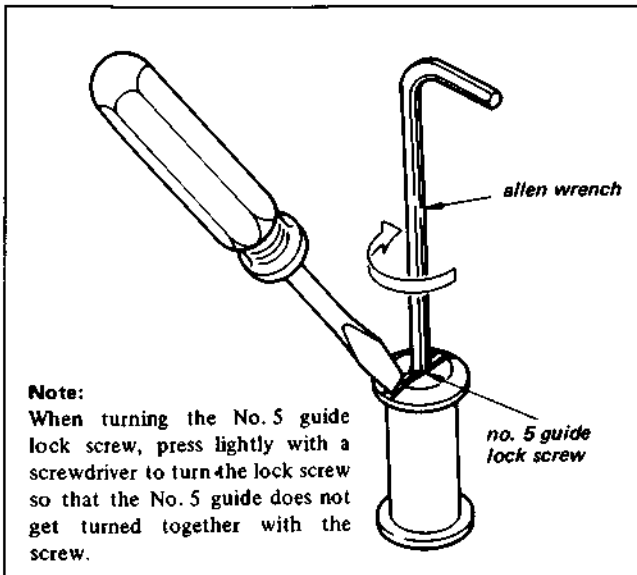

Fig. 4-5
- 3) Loosen no. 5 guide lock screw ①, turn no. 5 guide so that the entrance side waveform is almost flat, as shown in the figure below, and tighten lock screw ①. (See Fig. 4-5)